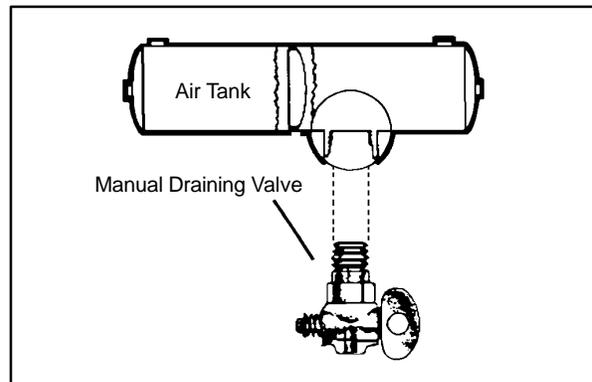

Figure 5-1: Manual Drain Valve
- Manually operated by turning a quarter turn, shown in Figure 5-1, or by pulling a cable. You must drain the tanks yourself at the end of each day of driving.